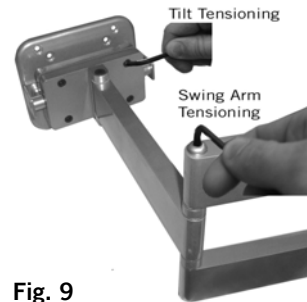

Fig. 9
Operation – Loosen tilt tension screws with supplied Small Hex Wrench (N) as shown in Fig. 9. Adjust display for desired tilt angle, and then re-tighten tension screws. For best results, always try to maintain about the same amount of torque on each of the 4 screws.
Use the supplied Medium Hex Wrench (N) to adjust the **Swing Arm Tension**. (Fig. 9)